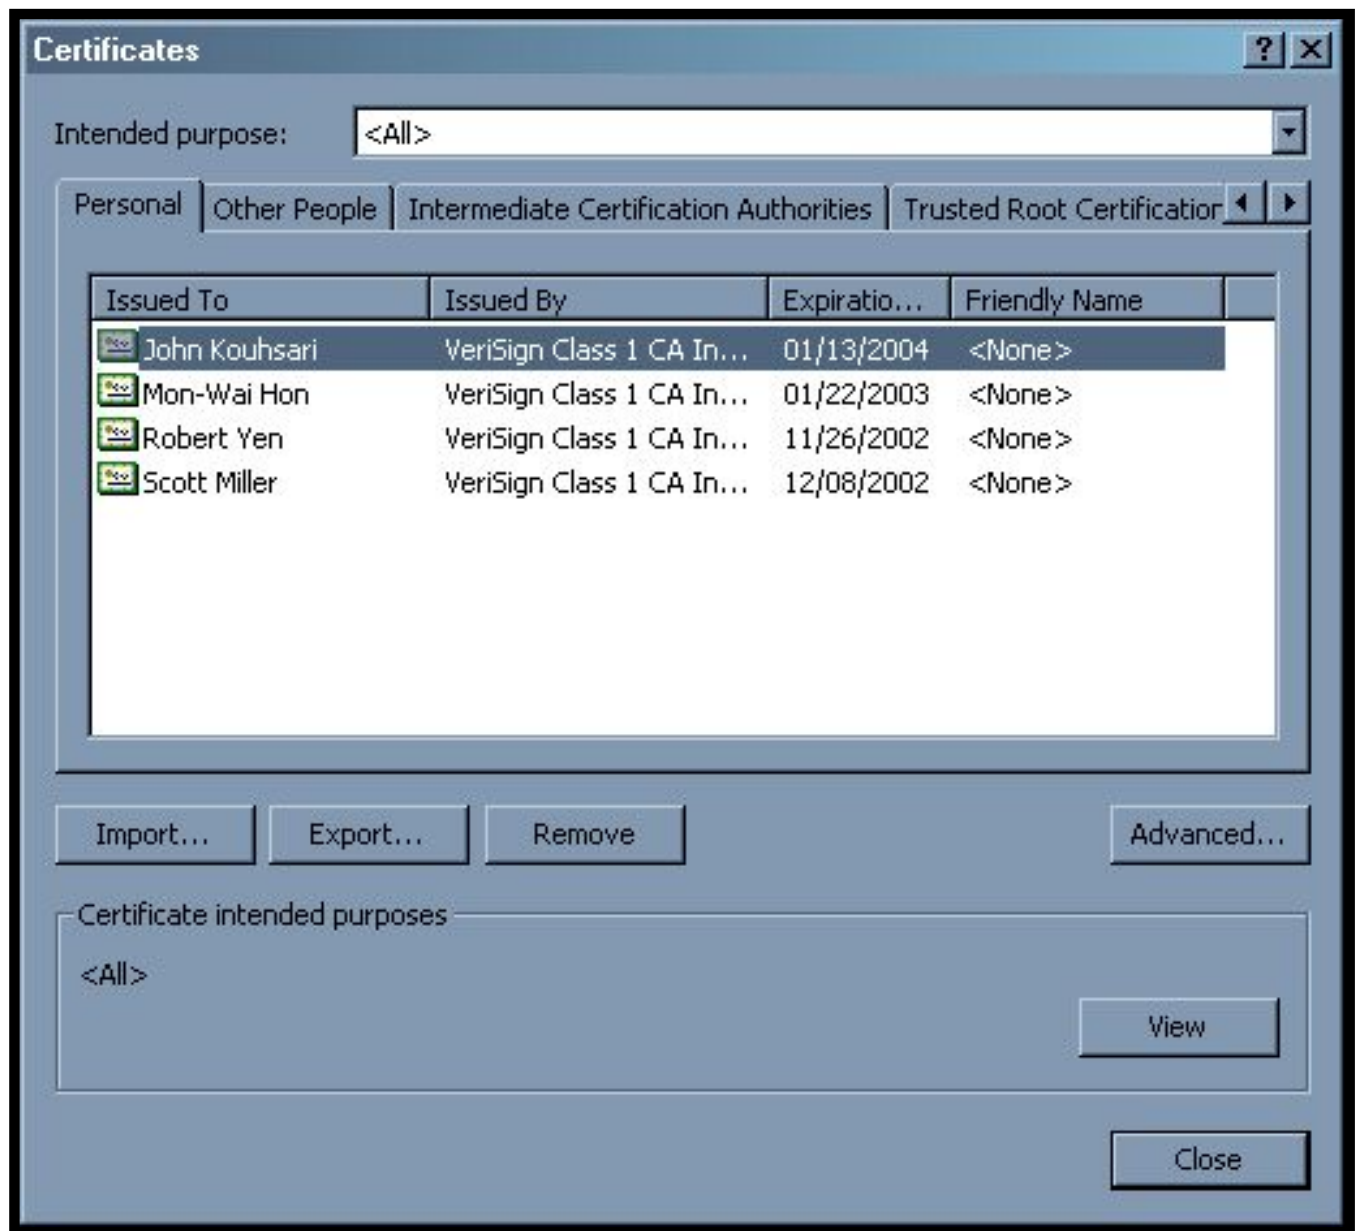

Figure 4.1-3: Click the Export Button
3. Highlight the desired client certificate and click on the *Export* button. See Figure 4.1-3 below.